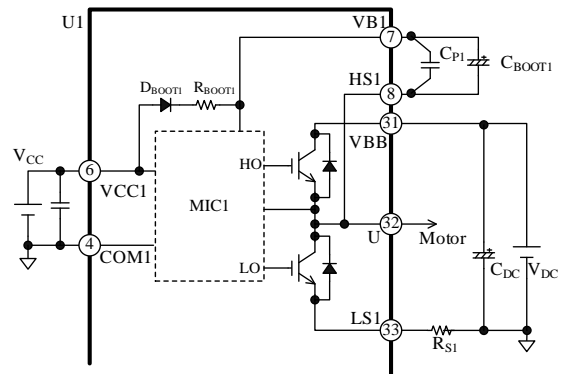

Figure 12-1. Bootstrap Circuit
As Figure 12-1 shows, in each trace between the VCCx and VBx pins, a bootstrap diode, D_{BOOTx} , and a current-limiting resistor, R_{BOOTx} , are placed in series. Time constant for the charging time of C_{BOOTx} , τ , can be computed by Equation (3):